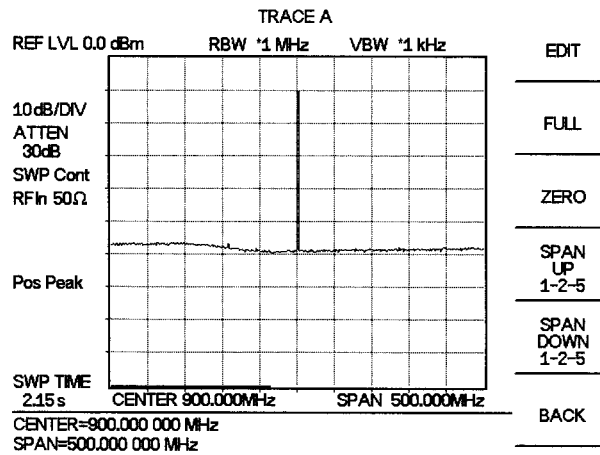

Figure 2-8. Signal at 900 MHz
- Step 3.** Enter 900 on the keypad and select the **MHz** soft key . Observe that the signal resembles that shown in Figure 2-8.